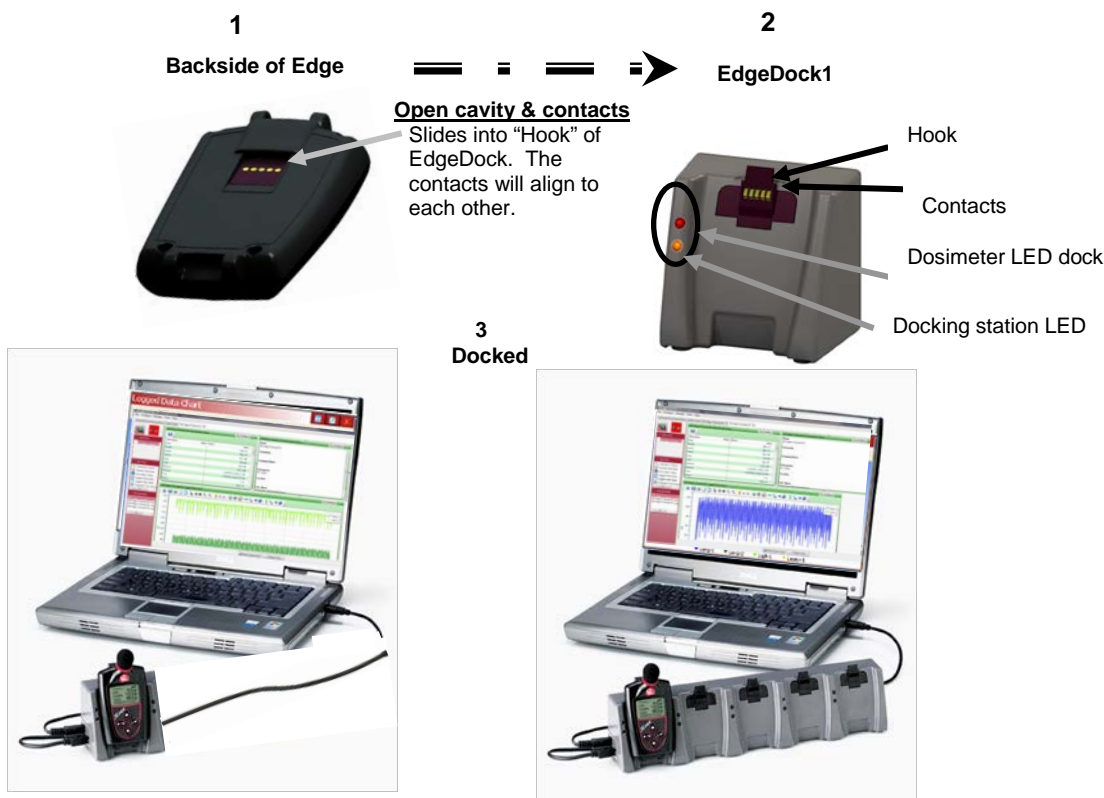

Figure 2-7: Docking the Edge with a single and 5-bay docks
2. Slide the Edge (1) downward onto the **Hook** of the EdgeDock. (See Figure 2-7 below).